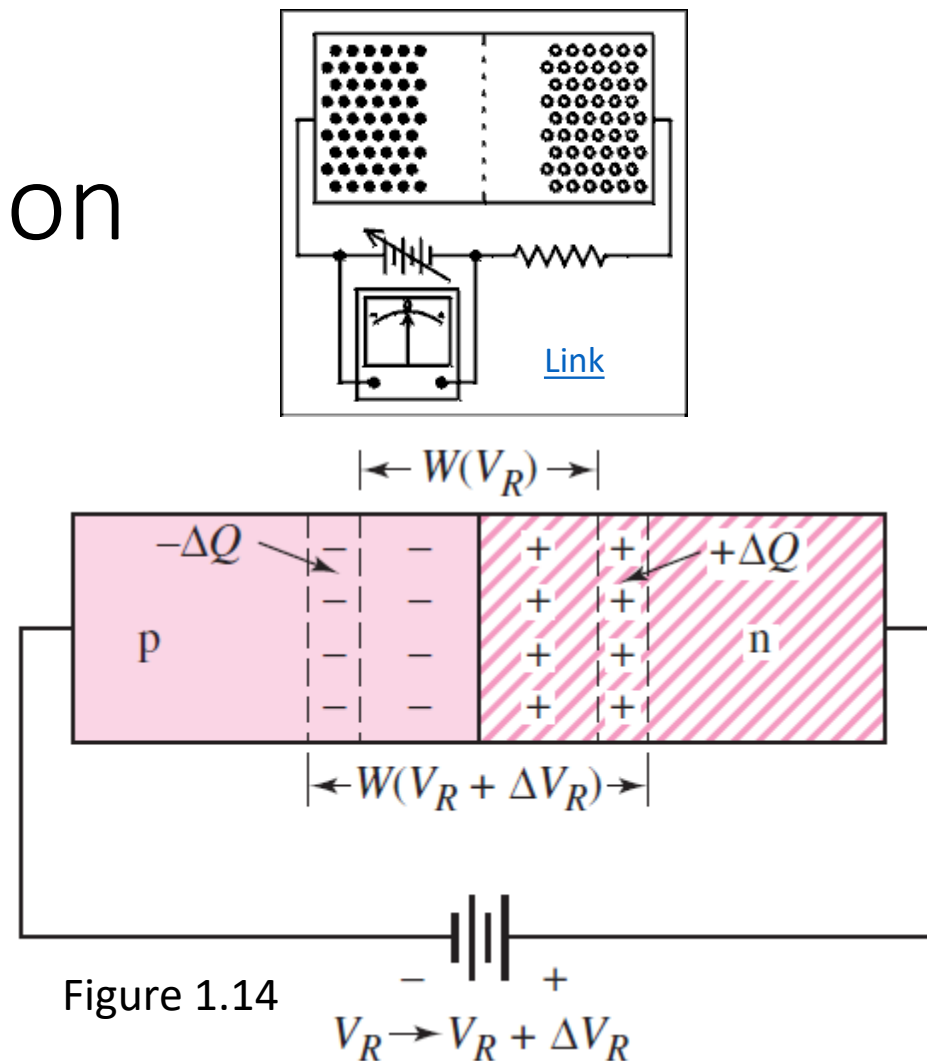

Figure 1.14
1. The space-charge width  $W$  of the space charge region also **increases** as shown in Figure 1.14.